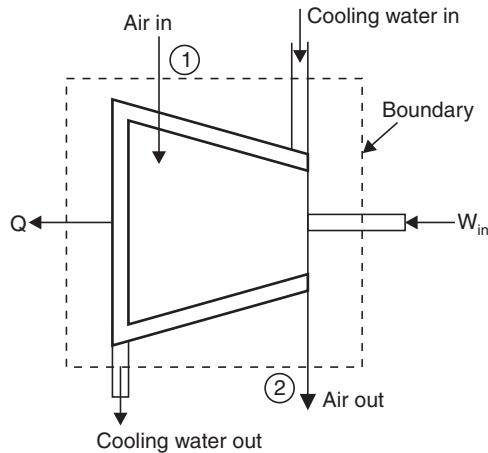

Fig. 2.48
**Solution.** Refer to Fig. 2.48.